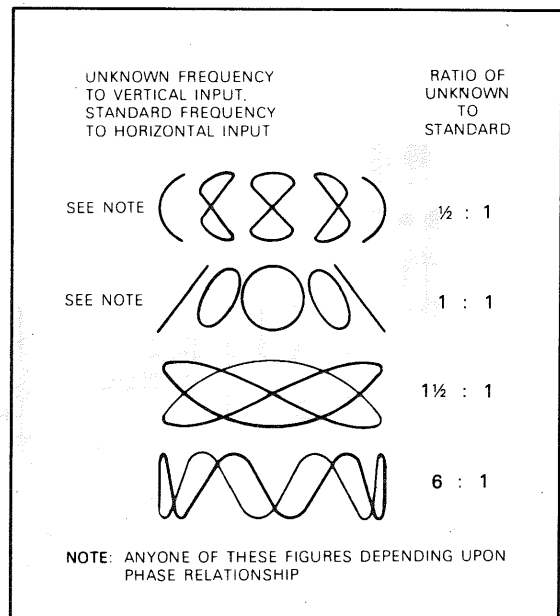

Fig. 10. Lissajous' waveforms used for frequency measurement
- The resulting Lissajous' pattern shows the ratio between the two frequencies (see Fig. 10).